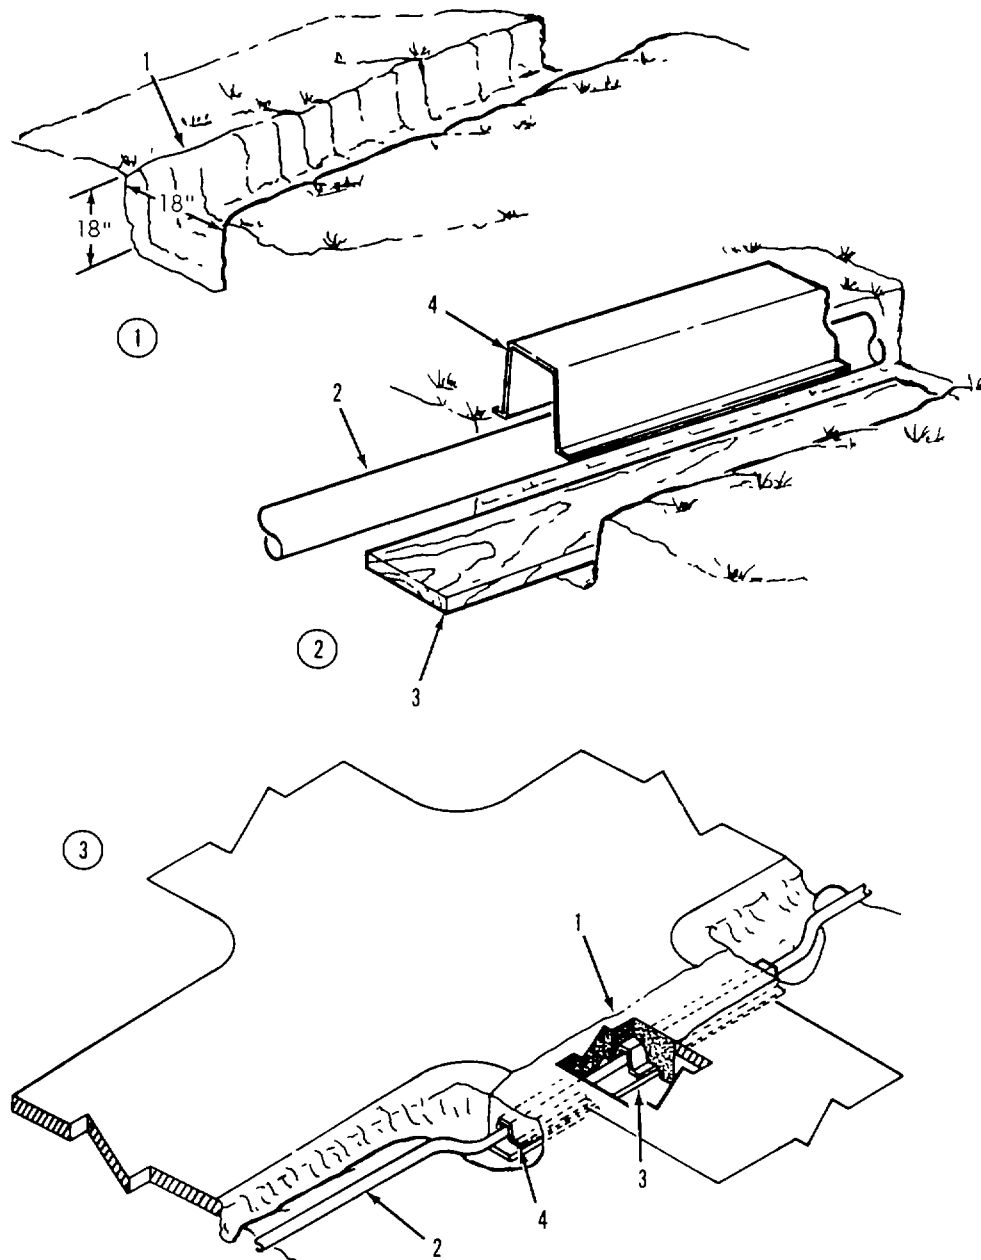

Figure 2-27. Roadway crossing Guard Installation
- k. Install Roadway Crossing Guards. Refer to figure 2-27. If hoseline must be laid across a roadway or railway, hose should be laid under existing bridge or through a culvert pipe where possible. Hoseline must never be buried unprotected because compacting earth may collapse hose and shifting rocks, sand and soil will gradually damage hose. If hoseline must cross a railway, dig a tunnel beneath gravel of railbed and nail a plank to bottom of roadway crossing guard. Location of the roadway crossing guards along the hoseline route must be determined from the initial site survey
- (1) Dig a trench (1) about 18 inches deep and 18 inches wide across road or railbed.